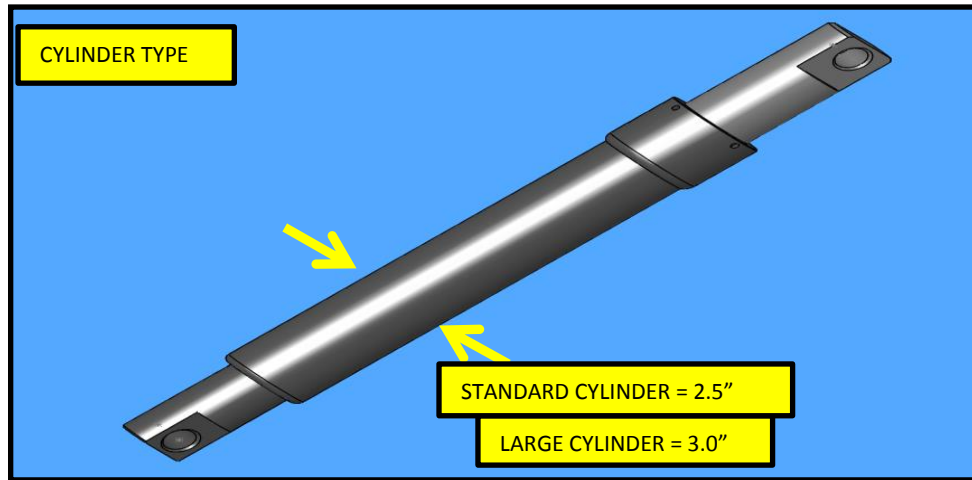

FIG. 18-1
30. If your vehicle is equipped with large lift cylinders follow step 32. Refer to FIG. 18-1
31. If your vehicle is equipped with standard lift cylinder follow step 34. Refer to FIG. 18-1